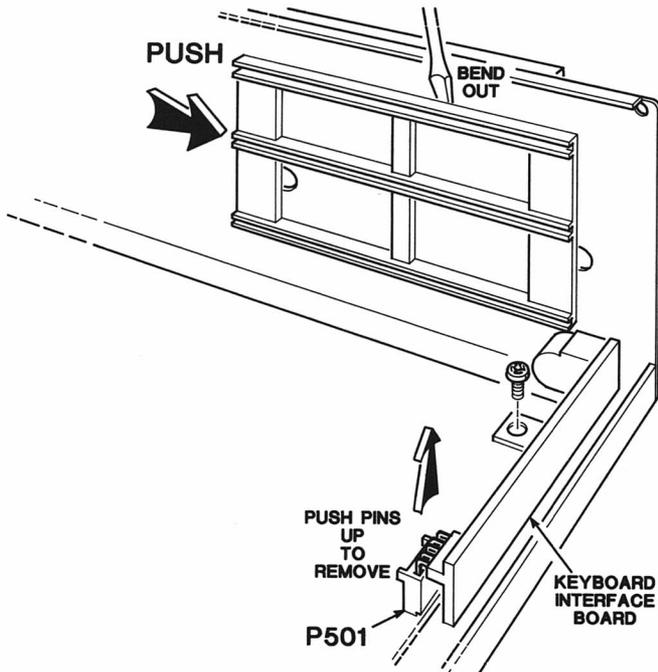

Figure 4-4. Keyboard Interface Board Removal
3. Remove the screw that secures the keyboard interface board to the main board and computer chassis, as shown in Figure 4-4.
4. Gently lift the keyboard interface board from connector P501 on the main board, as shown in Figure 4-4. Remove this board at an angle by holding down the front of the board above the keyboard connector and lifting the back of the board above P501.